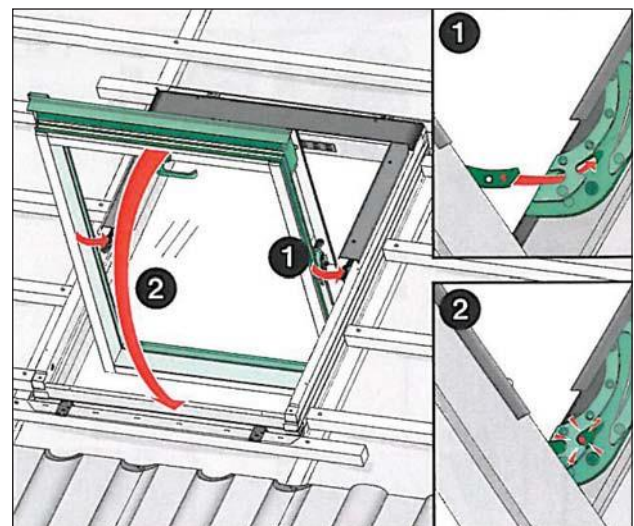

Fig 10
11) Reconnect the sash to the frame: standing inside the room and holding the sash horizontally, slide the protruding sash hinge pins into the frame hinges from the outside. It is essential to slide in both pins simultaneously; the push button is automatically released when the window is closed (Fig 10).